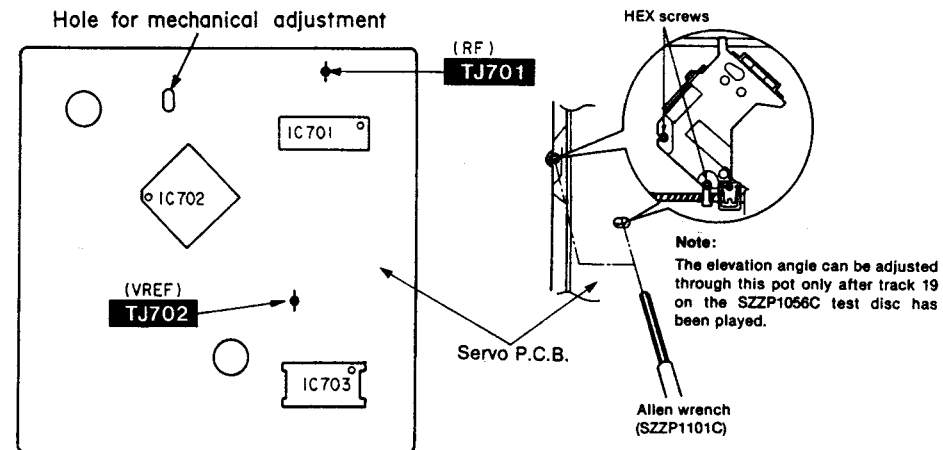

Fig. 3
1. Connect the oscilloscope's CH. 1 probe across **TJ701** (RF) and **TJ702** (VREF) on the servo P.C.B. (Refer to Fig. 3 on page 27)
3. Leave the player in play mode and place it as shown Fig. 3.